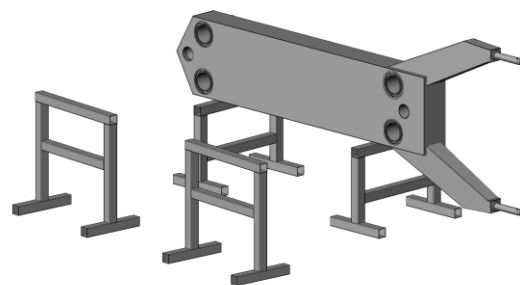

Figure 6-2
2. Position the two 25³/₄" jack stands as shown in figure 6-2. Depending on the size frame you are installing the actual distance from the fixed end will vary. These stands will support the rails and should be located so they are opposite from the rail holes in the fixed end.